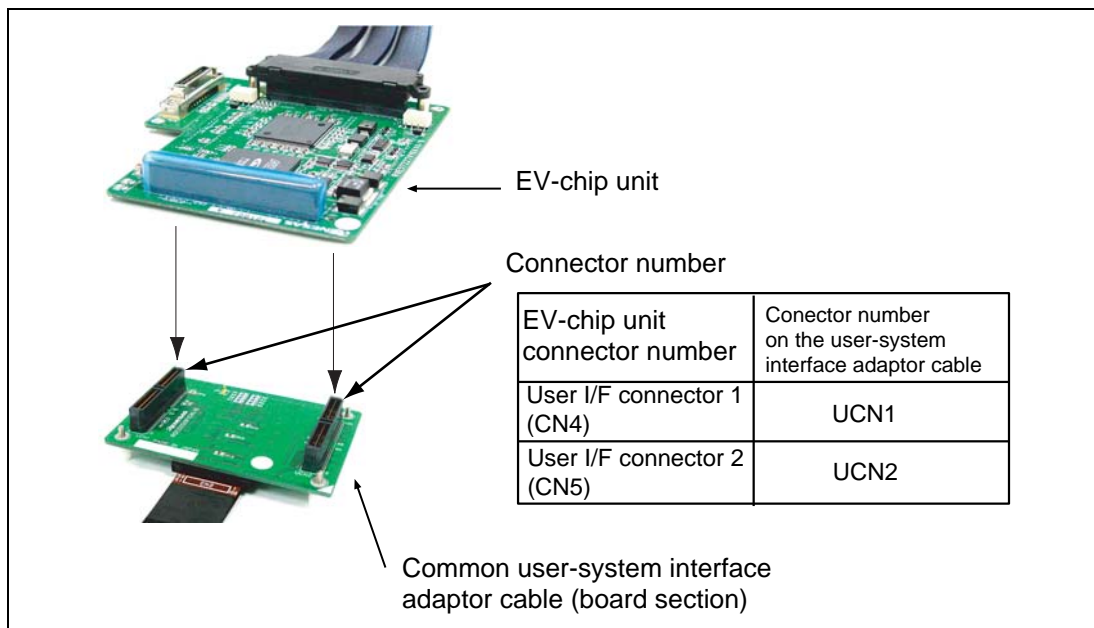

Figure 5 Connecting the User System Interface Board to the EV-Chip Unit
2. Align the connectors on the board with those on the EV-chip unit according to their numbers (figure 5).